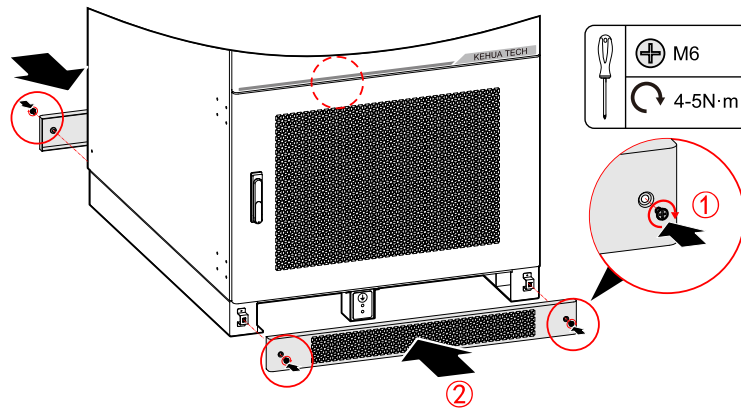

Figure4-6 Install the cover plates
Step 3 Install the cover plates, as shown in Figure4-6.